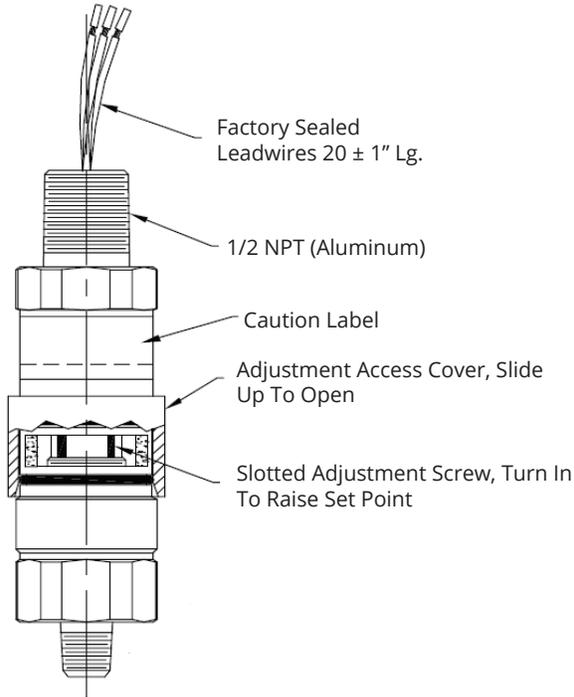

Figure 3.2 - Pressure Switch Adjustment
4. Insert screwdriver into adjustment slot and turn left (clockwise) to increase setting or right (counterclockwise) to decrease setting (Figure 3.2).